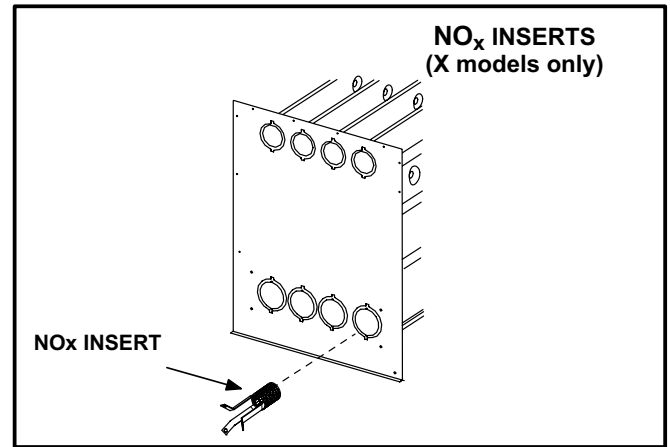

FIGURE 18
- 11 - ***NOx units only*** - Remove the three screws that attach the **NOx** insert to the corbel at the entrance to each heat exchanger section. Carefully remove the **NOx** insert from each section. See figure 18.
- 19 -**NOx Units** - Reattach the NOx inserts to the corbels at the entrance to each heat exchanger opening. See figure 18.